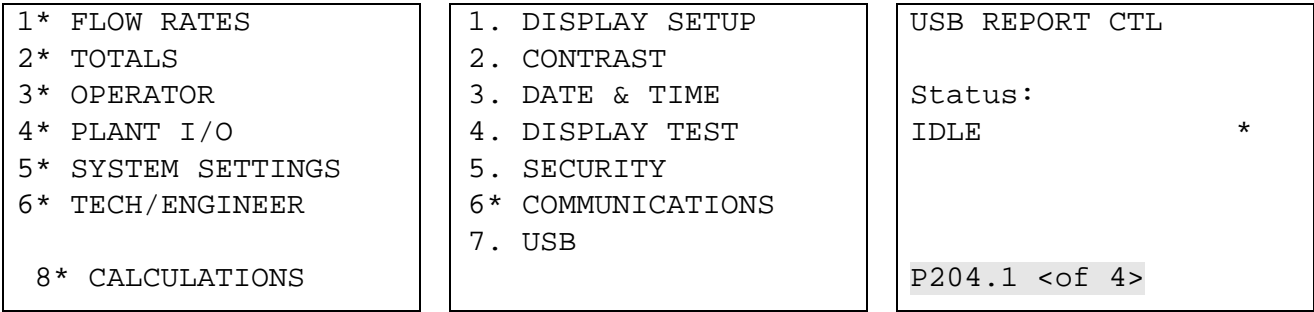

Figure 5-15. USB Report Control Menu
- 3. Select **USB** from the Tech/Engineer menu. The USB Report Control menu displays (see the screen sequence in *Figure 5-15*).